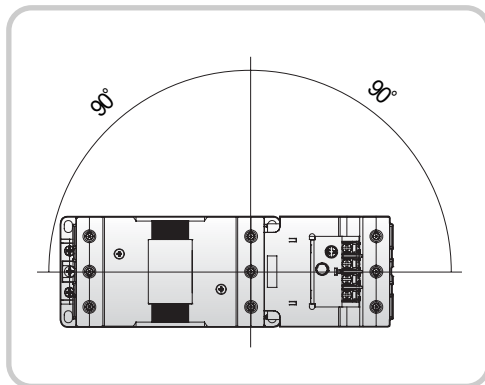

Fig. 13. Lateral installation
- Please install with being rotated 90 degrees counterclockwise from standard installation direction as seen in figure 13. If you' re only using the magnetic contactor, any direction is okay.